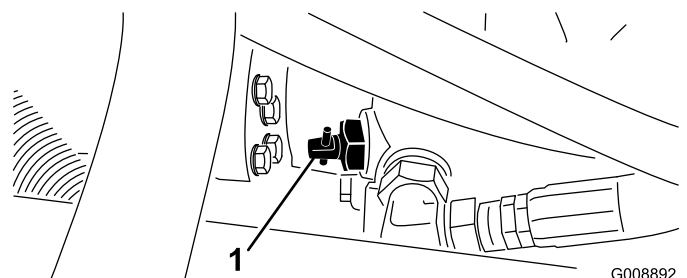

Figure 31
1. Locate the bypass valve on the pump (Figure 31) and rotate it 90°.